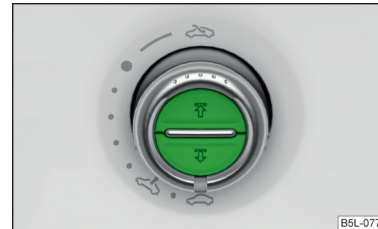

Fig. 41
Operation of the sunblind » Fig. 41
- Turn on the ignition and set the switch to position  » Fig. 41 on page 57.